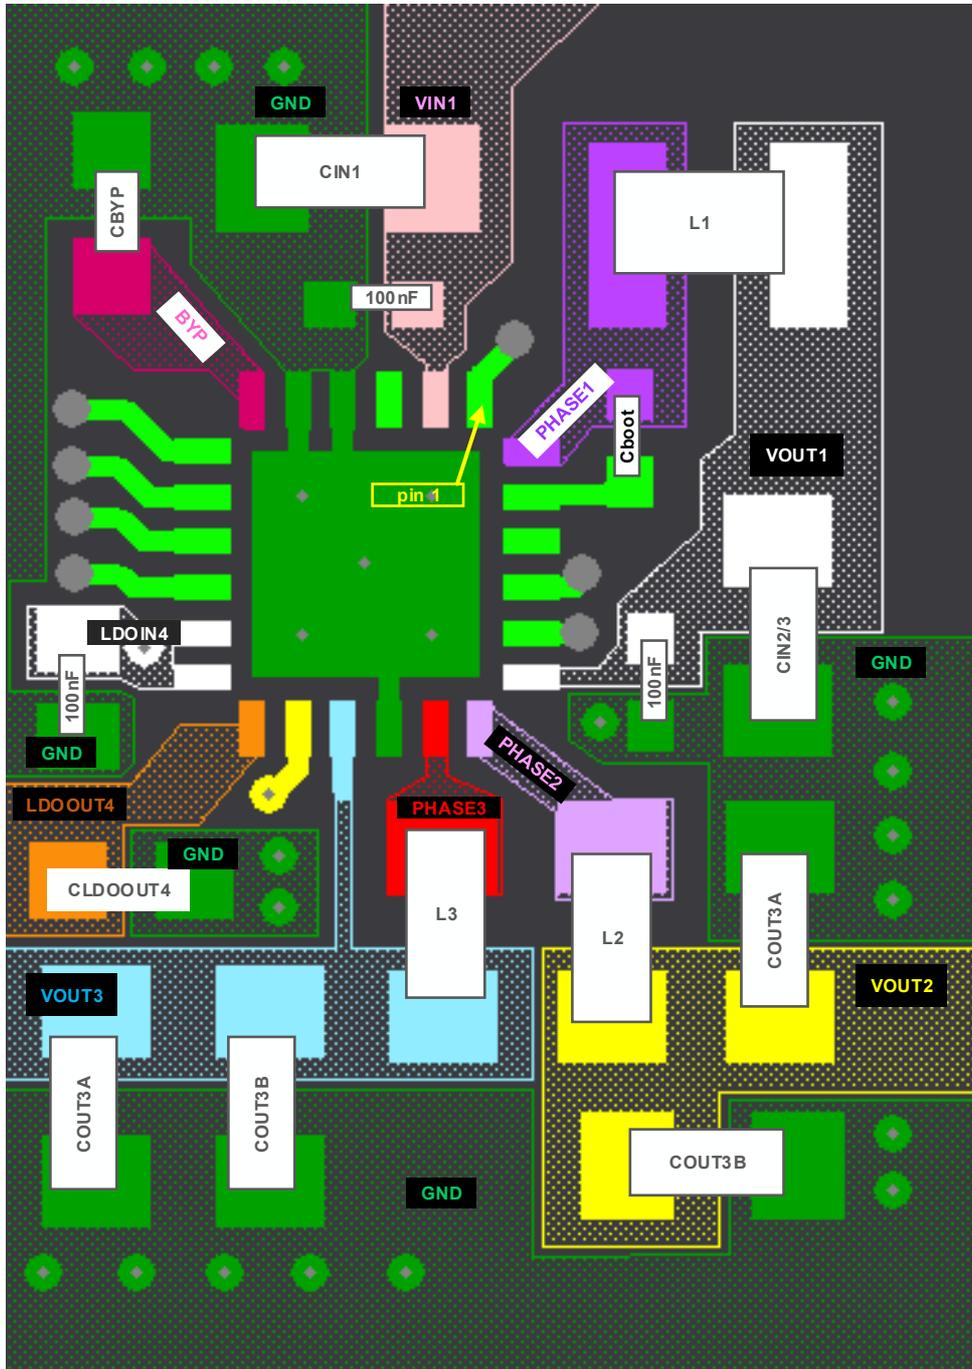

Figure 18. PCB Layout
- Route the feedback for Buck2 on an inner layer, connecting from COUT2 to FB2 (Pin 22). FB2 is a noise-sensitive input. Route the trace so that it avoids passing underneath the inductors L2, L3, or L1, and also avoids passing underneath under the PHASE signals or pins. Renesas recommends routing the trace on an inner layer, going around COUT3, and then routing to Pin 22. VOUT2 (Buck2 output) and the FB2 pin are shown in yellow in Figure 18.
An example PCB layout is shown in Figure 18.